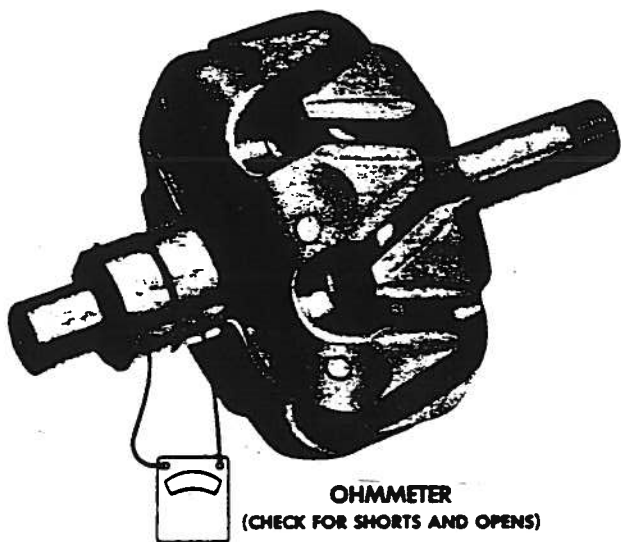

Figure 7-1. Rotor Check
d. Rotor (2) for corrosion and wear.
e. Brush (8) for wear.
f. Check rotor assembly (2) as follows:
1. Connect ohmmeter to each slip ring (figure 7-1).
5. Check rotor winding for short-circuit by connecting ohmmeter to each slip ring (figure 7-1).